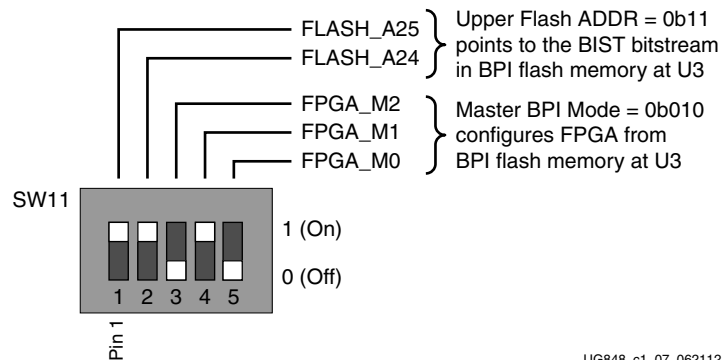

Figure 1-8: SW11 BIST Settings
4. Set DIP switch SW11 as shown in Figure 1-8.